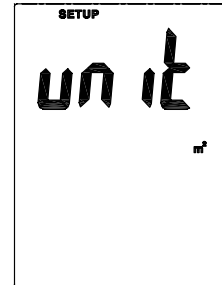

Fig. 1
1. Press the **SETUP** button for 3 seconds to enter or exit Setup mode. When the meter is in Setup mode, the display shows **SETUP** (refer to Fig. 1).